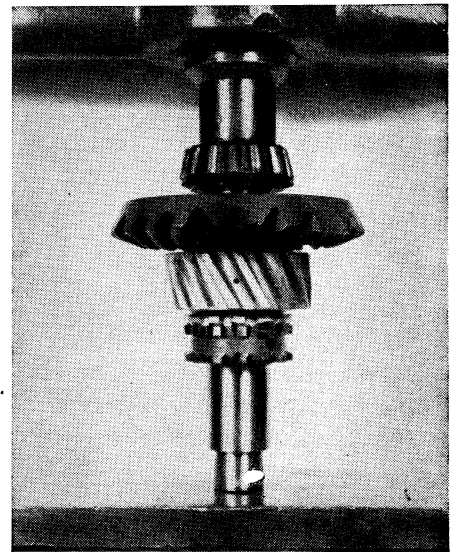

Fig. 24 Pressing bearing on cross shaft
5. Press bearing firmly against bevel gear, using a suitable sleeve, Fig. 24.